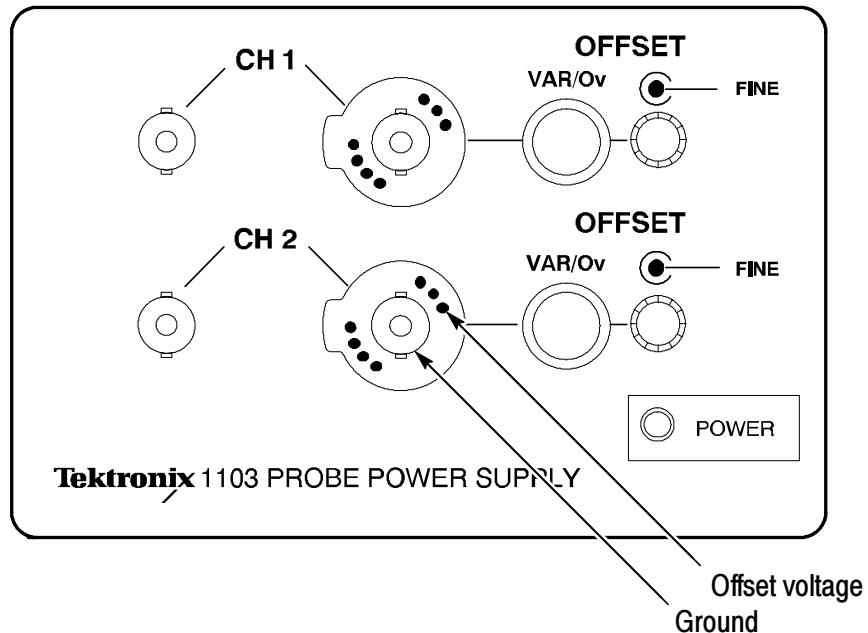

Figure 19: 1103 power supply offset voltage location
2. Using a DMM, adjust the 1103 offset voltage to -0.25 V. Refer to Figure 19 for the location of the offset voltage test point.